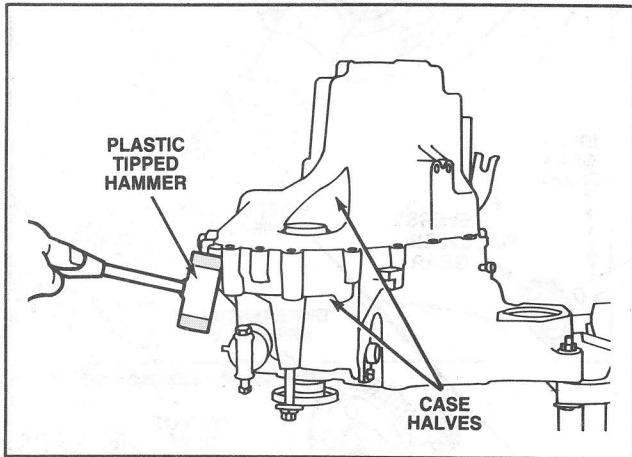

Figure 37 Separating Transmission Case
**NOTE:** It may be necessary to tap the transmission case with a plastic-tipped hammer to break the sealant bond. (Figure 37).